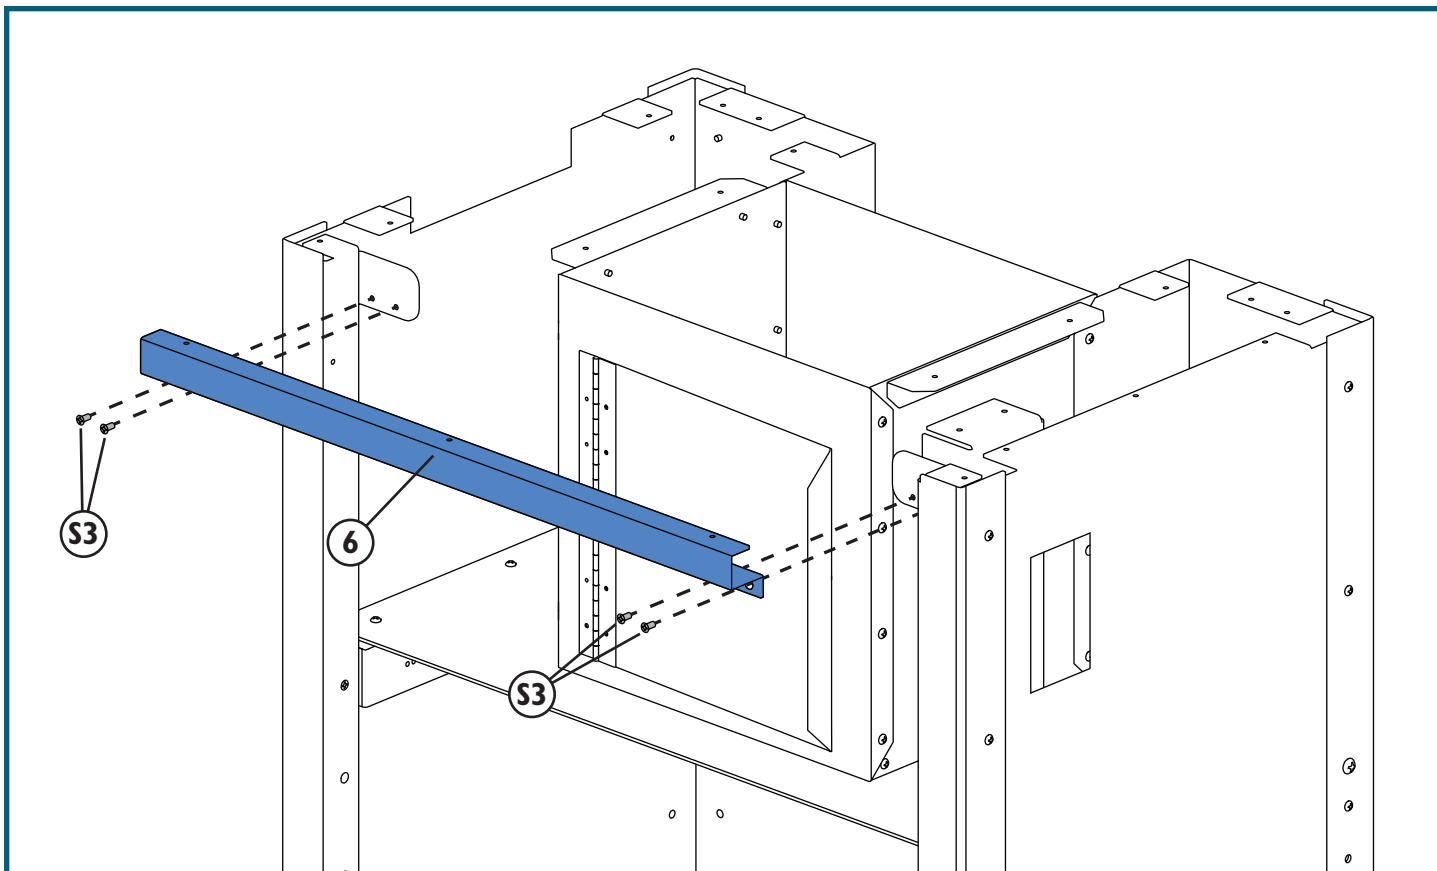

Fig. 19
1. Attach the top Front Rail (6) to the tabs at the top of the Left and Right Front Corner Brackets (9 and 11) with two M4 x 3/8" Flat-Head Self-Tapping Screws (S3) on each side. Make sure to use flat-head screws. **Fig. 19.**